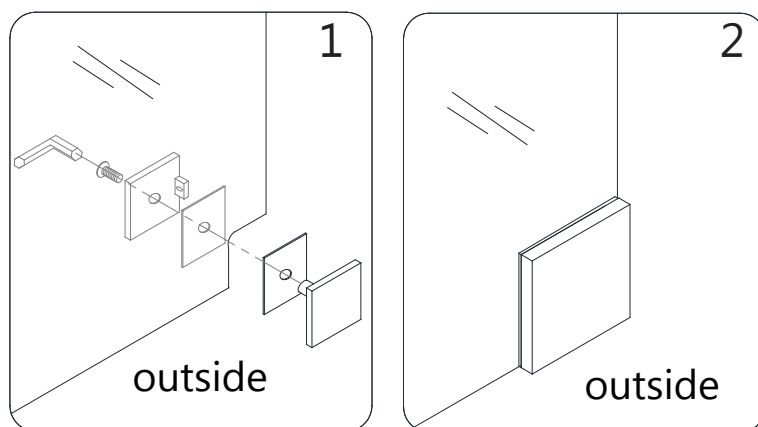

Fig 6
5. If the model width is 72" and includes the **Small Stationary Glass (#23)**, assemble the **Wall Bracket (#19)** onto the larger notch at the bottom corner of the **Small Stationary Glass (#23)**. Use the provided gaskets to protect the glass. (**Fig 6**)